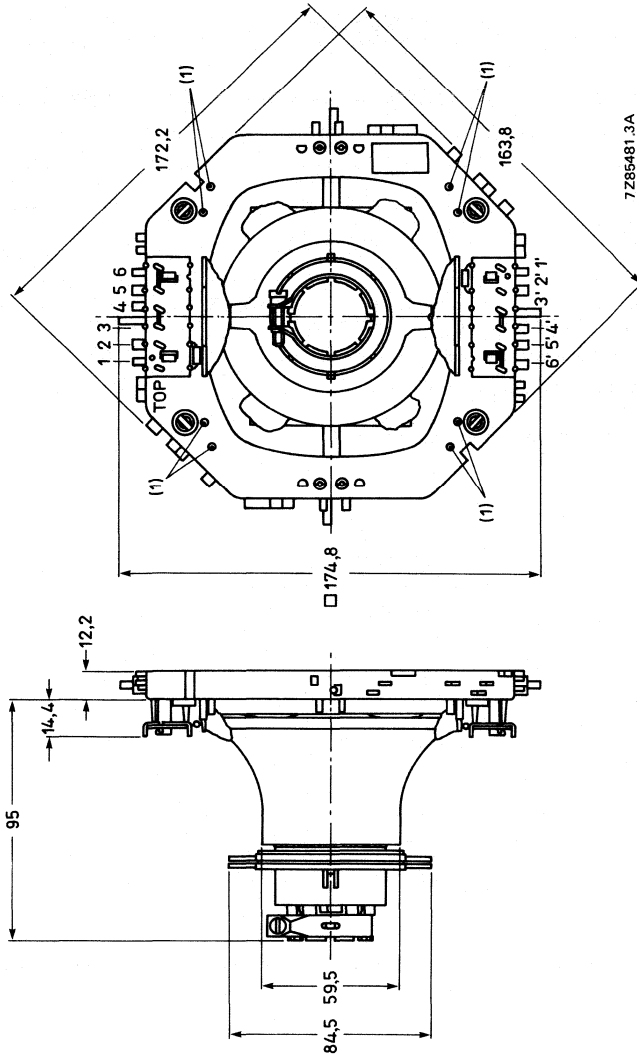
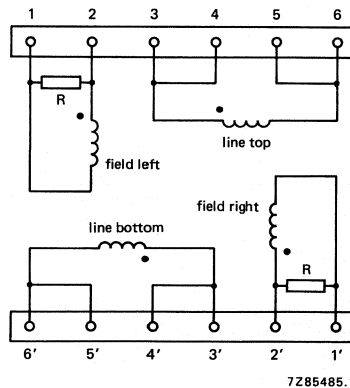

Fig. 1 Deflection unit AT1039/09.
Fig. 2 Diagram of line and field coils; R = 270 Ω . The beginning of the windings is indicated with ●.
If a further improvement of raster geometry is required use can be made of correction magnets*, which must be fitted to mounting posts (1). The unit has solder pins for connection. The pin numbering in Fig. 1 corresponds to that in Fig. 2.